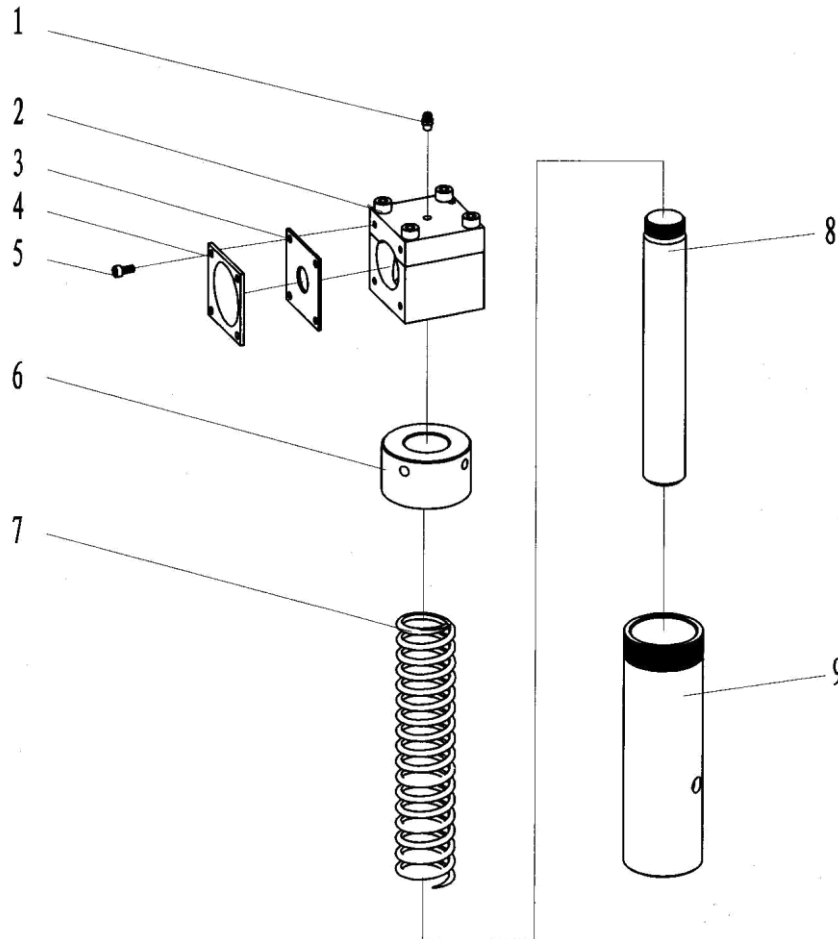

Fig.31
11.14 Rear guide pole assembly and parts list (Fig.31,Table 18)